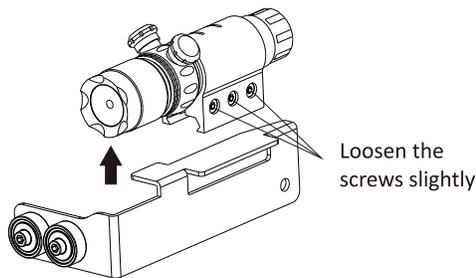

Fig. 8
1. Loosen the screws as seen in Fig. 8 slightly to detach and re-attach laser to laser mounting bracket.